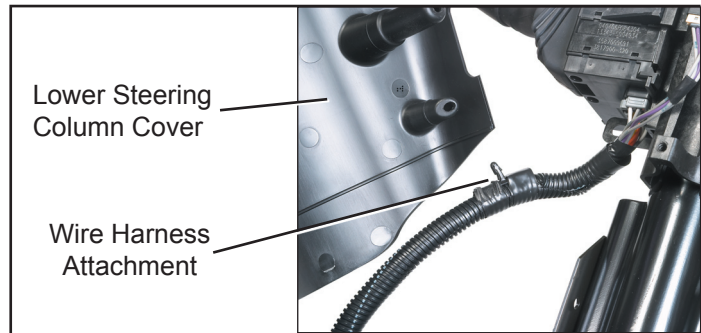

Figure 3 - Wire Harness Attachment
2. Remove the wire harness attachment from lower cover to allow complete removal of the upper and lower halves. See Figure 3.
6. Reinstall the column covers starting with the lower cover. Secure the wire harness and clip to the cover before installation. Refer to Figure 3. Align the steering column screw hole of the bottom cover with the steering column hole. Install the column screw and torque to 20-40 in-lbs. Align the top cover with the bottom cover and install the two post screws. Tighten the post screws to 10-25 in-lbs. Use the column screw and two post screws that were removed in step one of the disassembly.